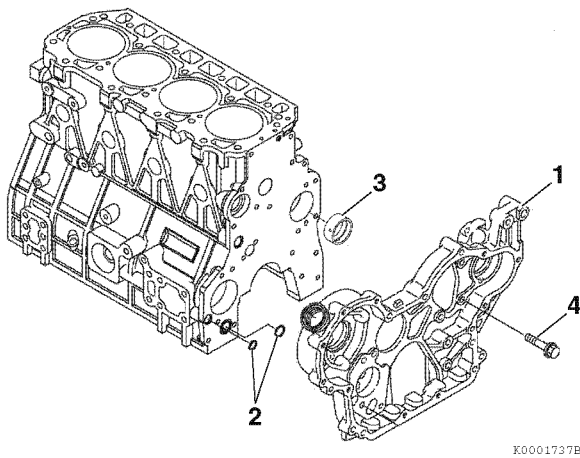
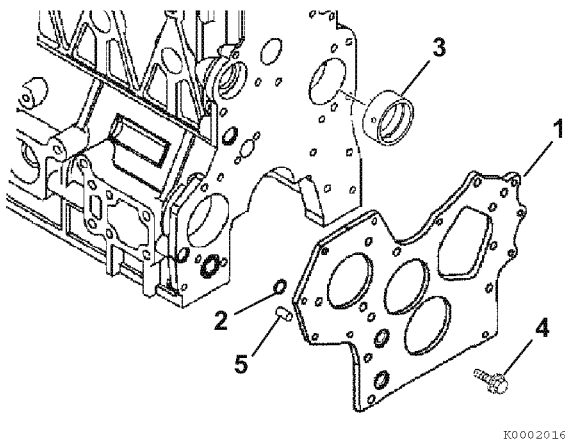

Figure 6-144
Figure 6-145
1. If removed, install a new camshaft bushing (3, **Figure 6-144**) using the appropriate service tool.
3. **4TNV94 - 4TNV106:** Install two new O-rings (2, **Figure 6-144**) in the cylinder block.
4. **TNV84 - TNV88:** Reinstall the dowels (5, **Figure 6-145**) and a new O-ring (2, **Figure 6-145**).
5. Reinstall the gear case (1, **Figure 6-144**) or front plate (1, **Figure 6-145**). Tighten the bolts to the specified torque.